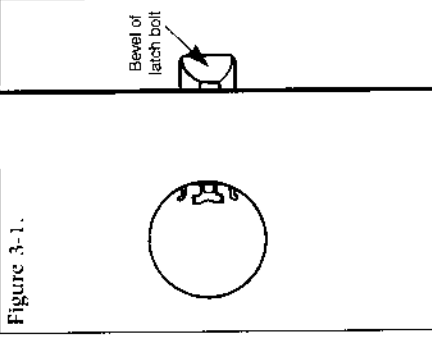

Figure 3-1.
- 1 • Insert the latch into the 1" (25 mm) hole until the face plate butts up against the door edge. Make sure the bevel of the latch bolt faces the same direction as the door swings to close (see Figure 3-1).